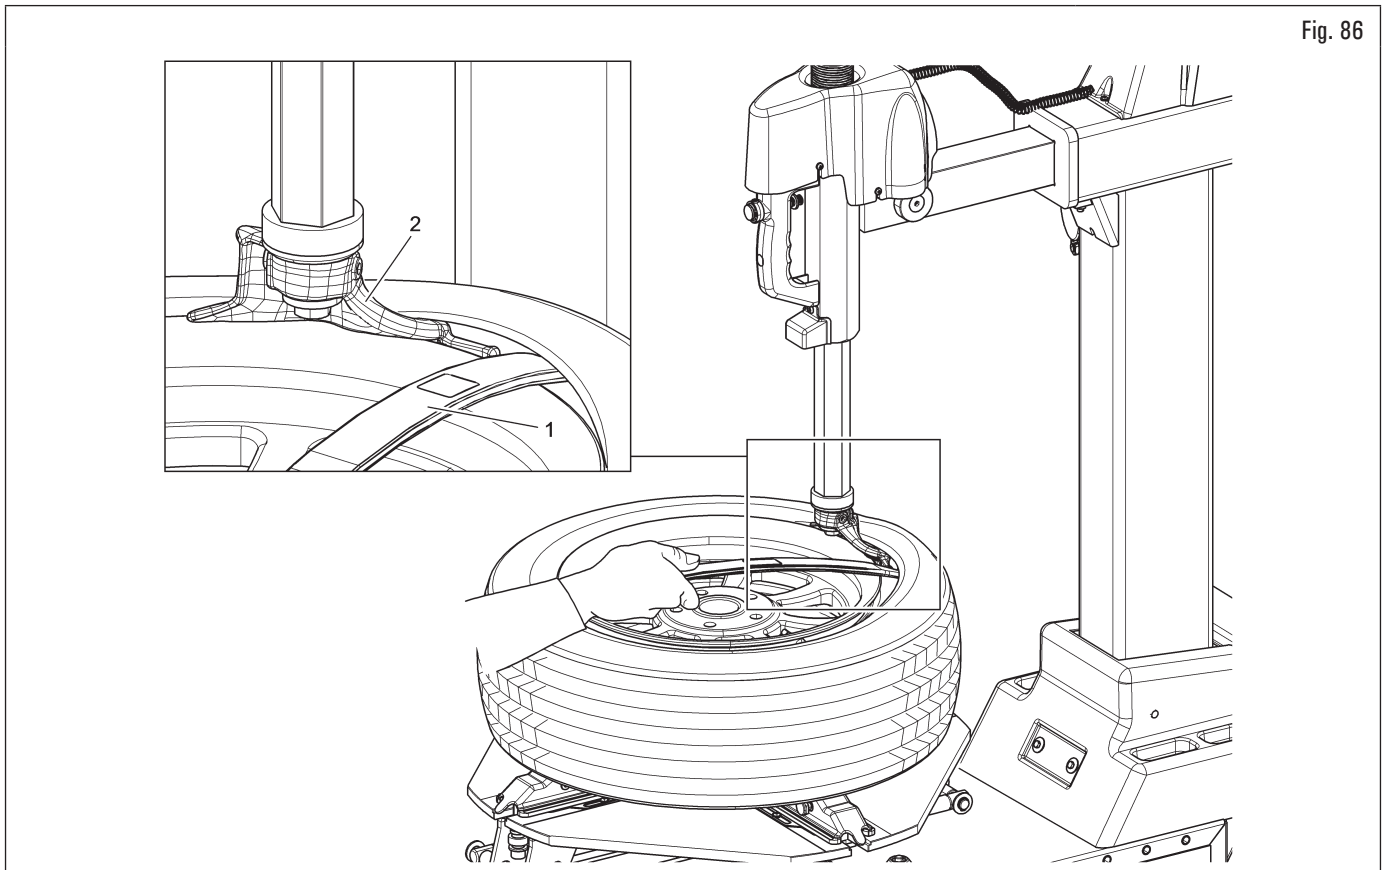

Fig. 86
9. load the bead on the toolhead (Fig. 86 ref. 2) using the bead lifting lever (Fig. 86 ref. 1). Proceed slowly and progressively, allowing the bead to slide progressively along the lever, the toolhead and the edge of the rim, reducing the tension;